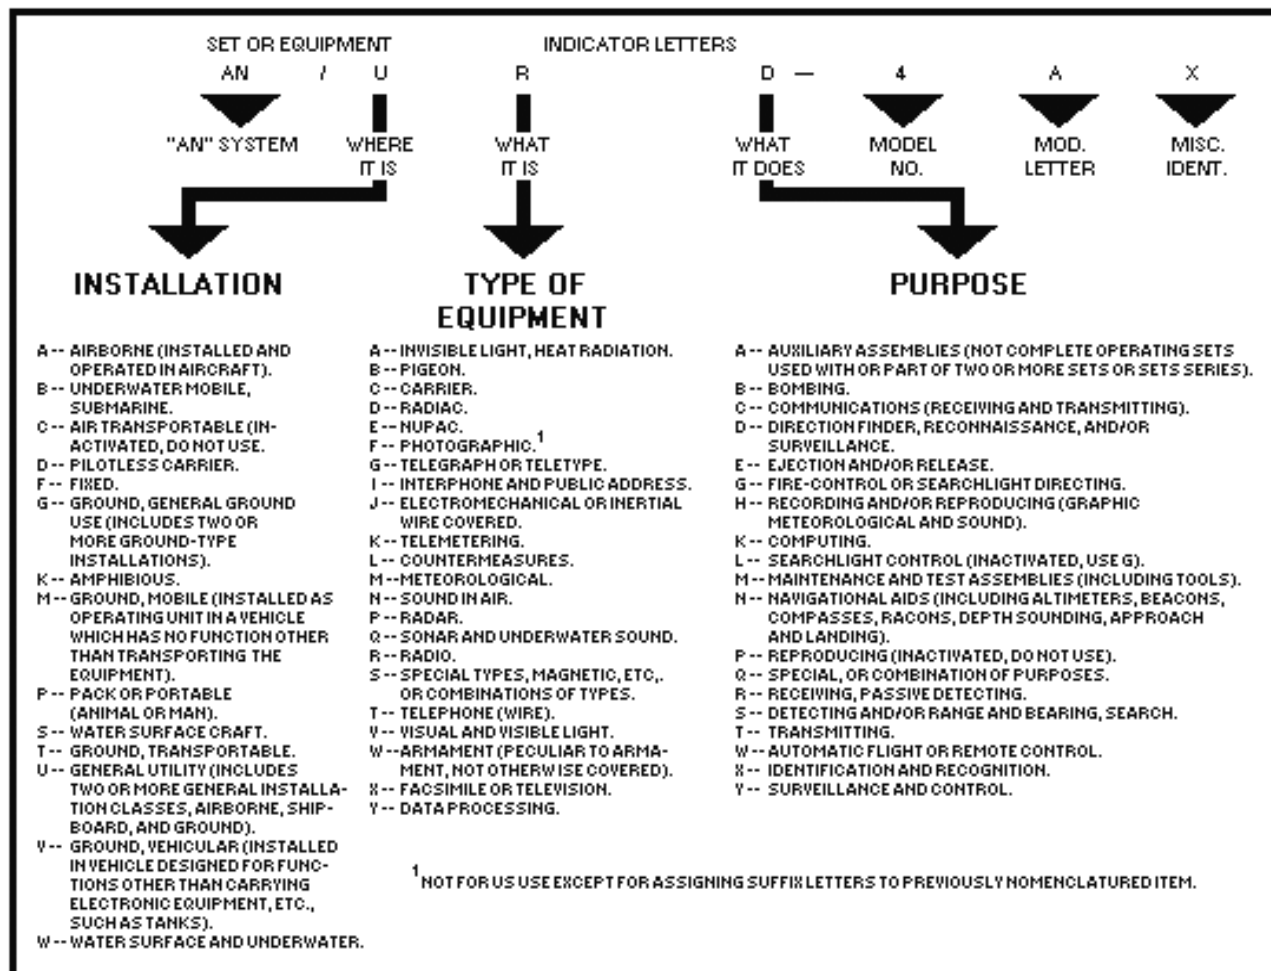

Figure 1-36.—Joint Electronics Type Designation System (AN).
This system, formerly known as the Joint Army-Navy (AN) nomenclature system, was designed so that a common designation could be used for all the services' equipment. Figure 1-36 shows you how to identify equipment in the JETDS (AN) System.